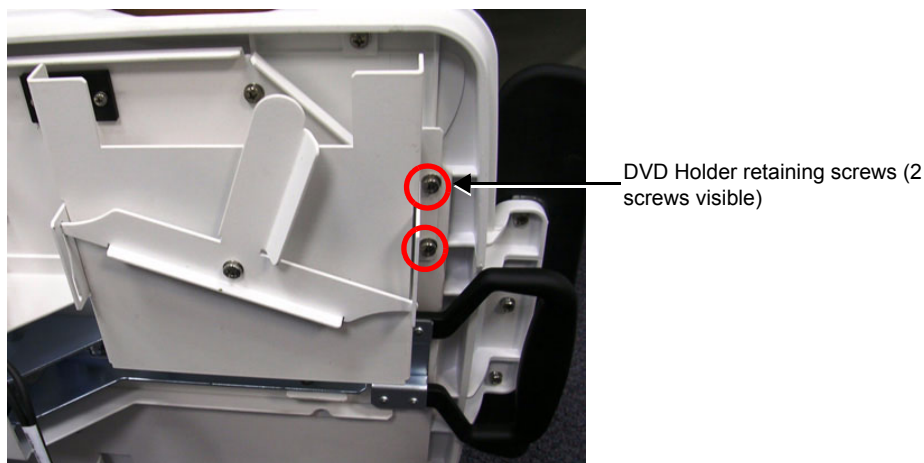

Figure 8-100 DVD Holder Showing Two Retaining Screws
- 1.) From below the Top Shelf, while supporting the DVD Holder with one hand, remove the four retaining screws as shown in Figure 8-100.
- 2.) Return and fasten the four retaining screws as shown in Figure 8-100 to secure the DVD Holder firmly in position.